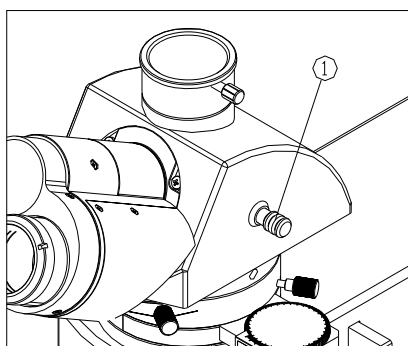

Fig.35
For the trinocular head, the light path selecting pole ① can control the optical energy ratio for binocular and three-links. Push the light path selecting pole to the innermost, the light all comes into the binocular head. Pull the light path selecting pole to the outermost, the ratio of binocular and three-links is 5:5. Usually, push the light path selecting pole to the innermost for binocular observation, pull the light path selecting pole to the outermost for trinocular observation (TV and photography). (See Fig. 35)